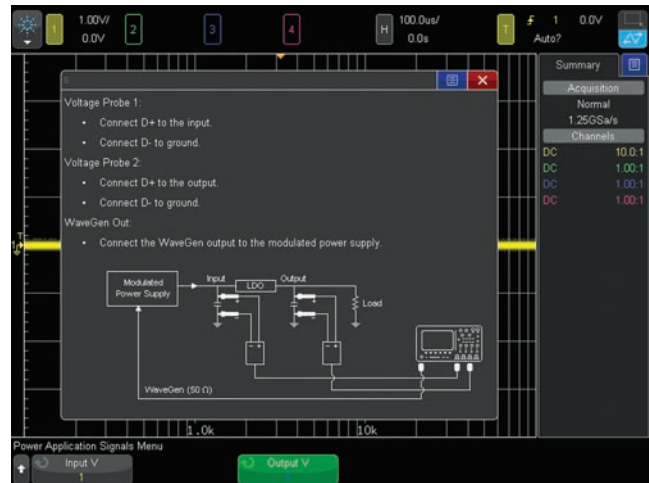

Figure 36: PSRR connections diagram in the Signals menu.
4. Connect the WaveGen's output (Gen Out 1 only if using an Agilent 4000 X-Series scope) to the DC input source of the DUT via a summing network as illustrated in the on-screen connections diagram shown in Figure 36.